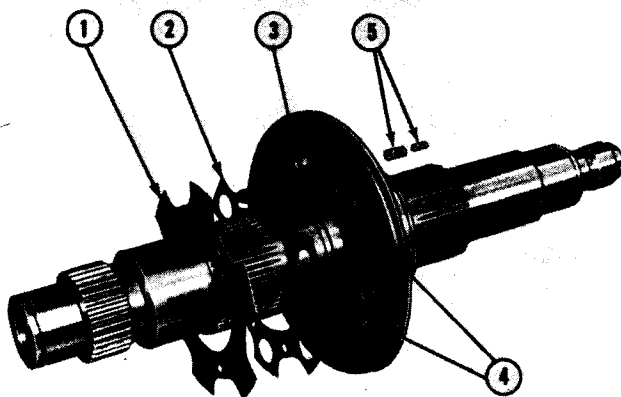

Figure 4-37
Remove disc valve (1, Fig. 4-37) reinforcing disc (2), hook type seal ring (3), dowel pins (4). Remove inner and outer compression springs (5) from 2nd range side of separator plate.
Install dowel pins (4, Fig. 4-37) in separator plate.
Install a reinforcing disc (2, Fig. 4-37) and a disc valve (1) on each side of separator plate. Align reinforcing disc and disc valves on dowel pins.